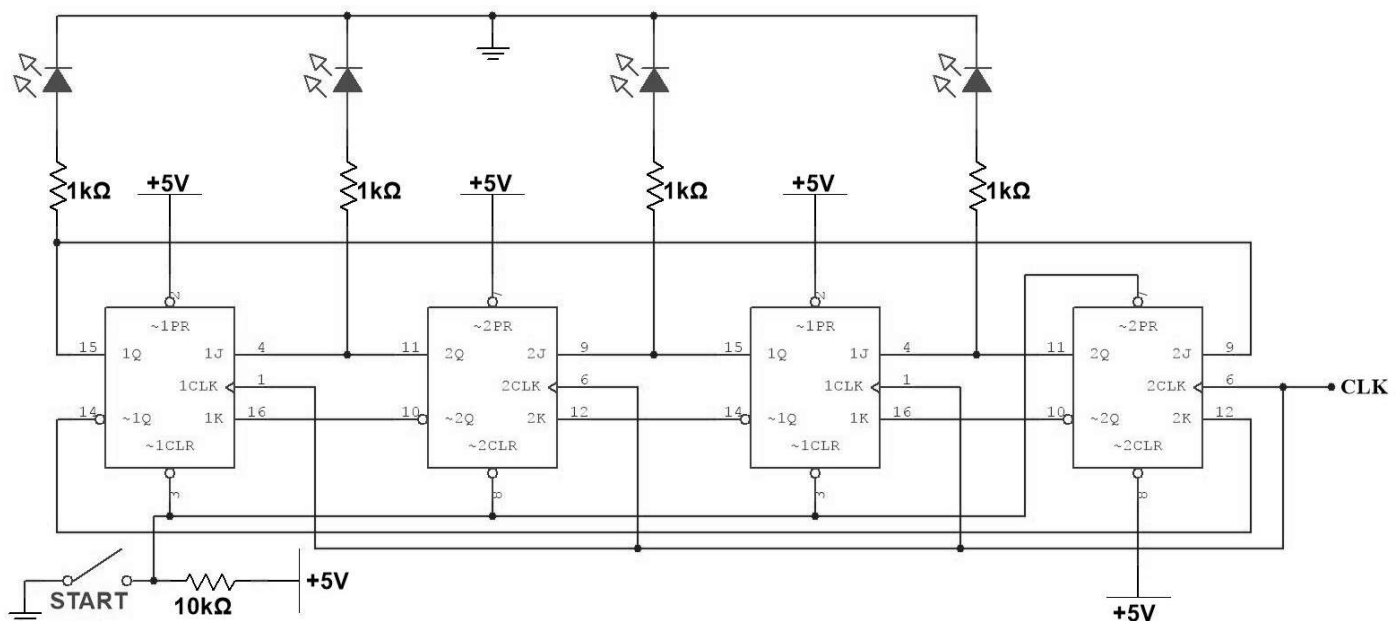

Figure 4.9. Experimental Ring Counter
1. Construct the ring counter of figure 4.9!